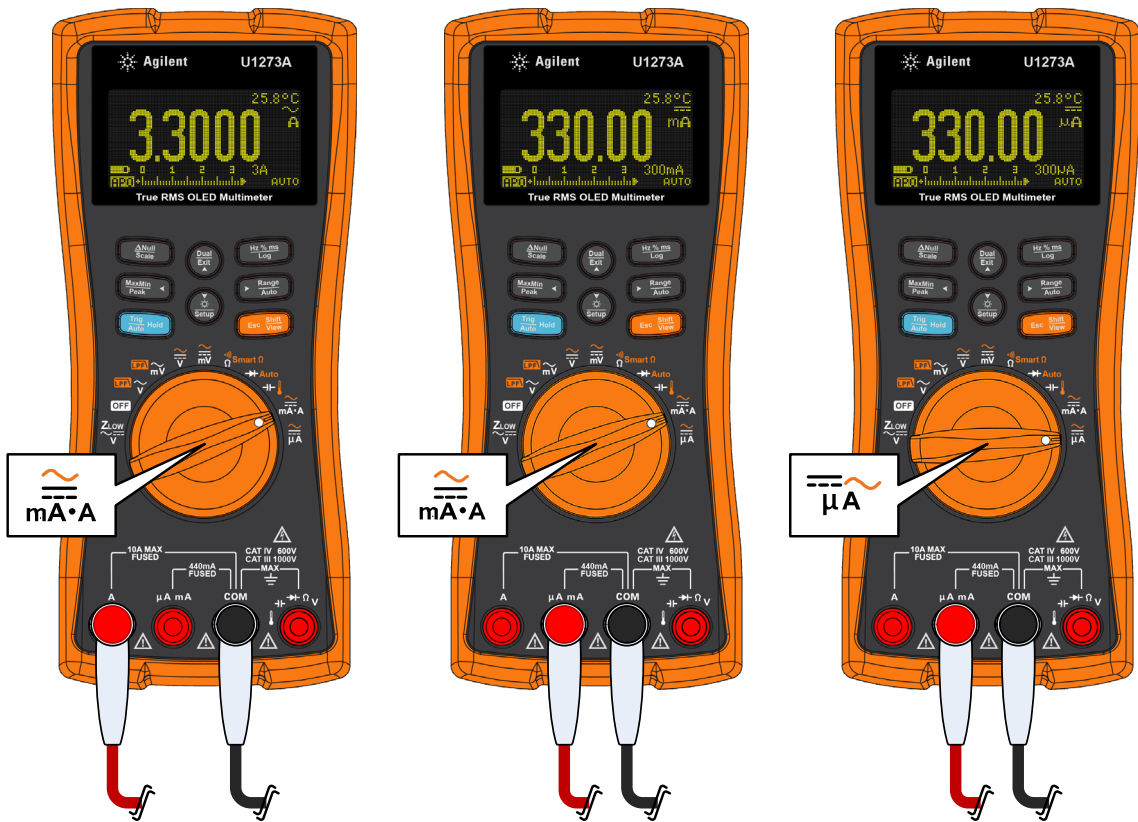

Figure 2-34 Current measurement setup
- To avoid blowing the multimeter's 440 mA fuse, use the  **$\mu\text{A}$  mA** terminal only if you are sure the current is less than 400 mA. See Figure 2-34 for test lead connections and function selection. Refer to the "Input warning" section for information on the alerts the multimeter uses when leads are not used correctly for current measurements.